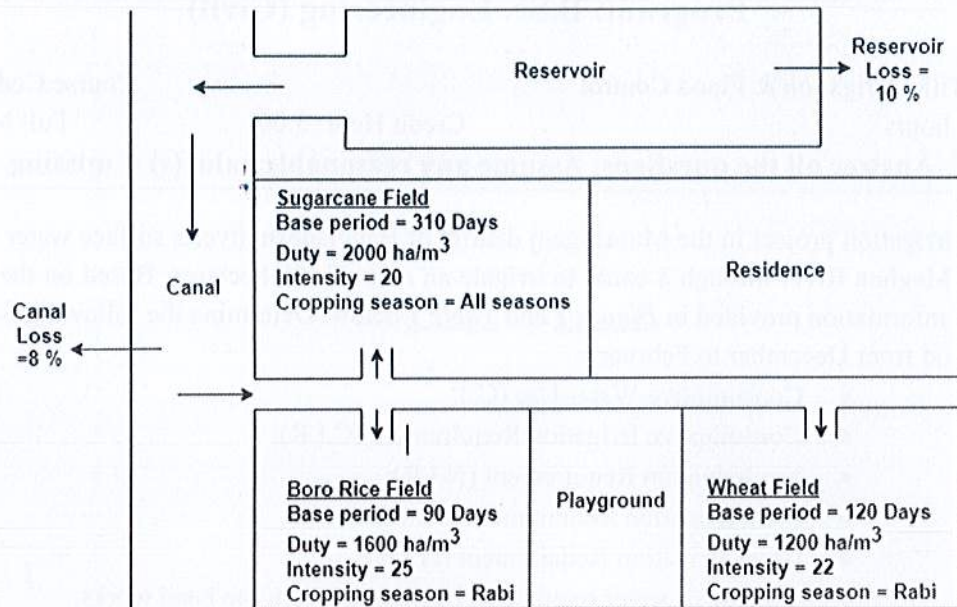

**Figure 1**
1. An irrigation project in the Munshiganj district of Bangladesh diverts surface water from the Meghna River through a canal to irrigate an area of 400 hectares. Based on the data and information provided in Figure 1 and Table 1 below. Determine the following for the period from December to February: (14)